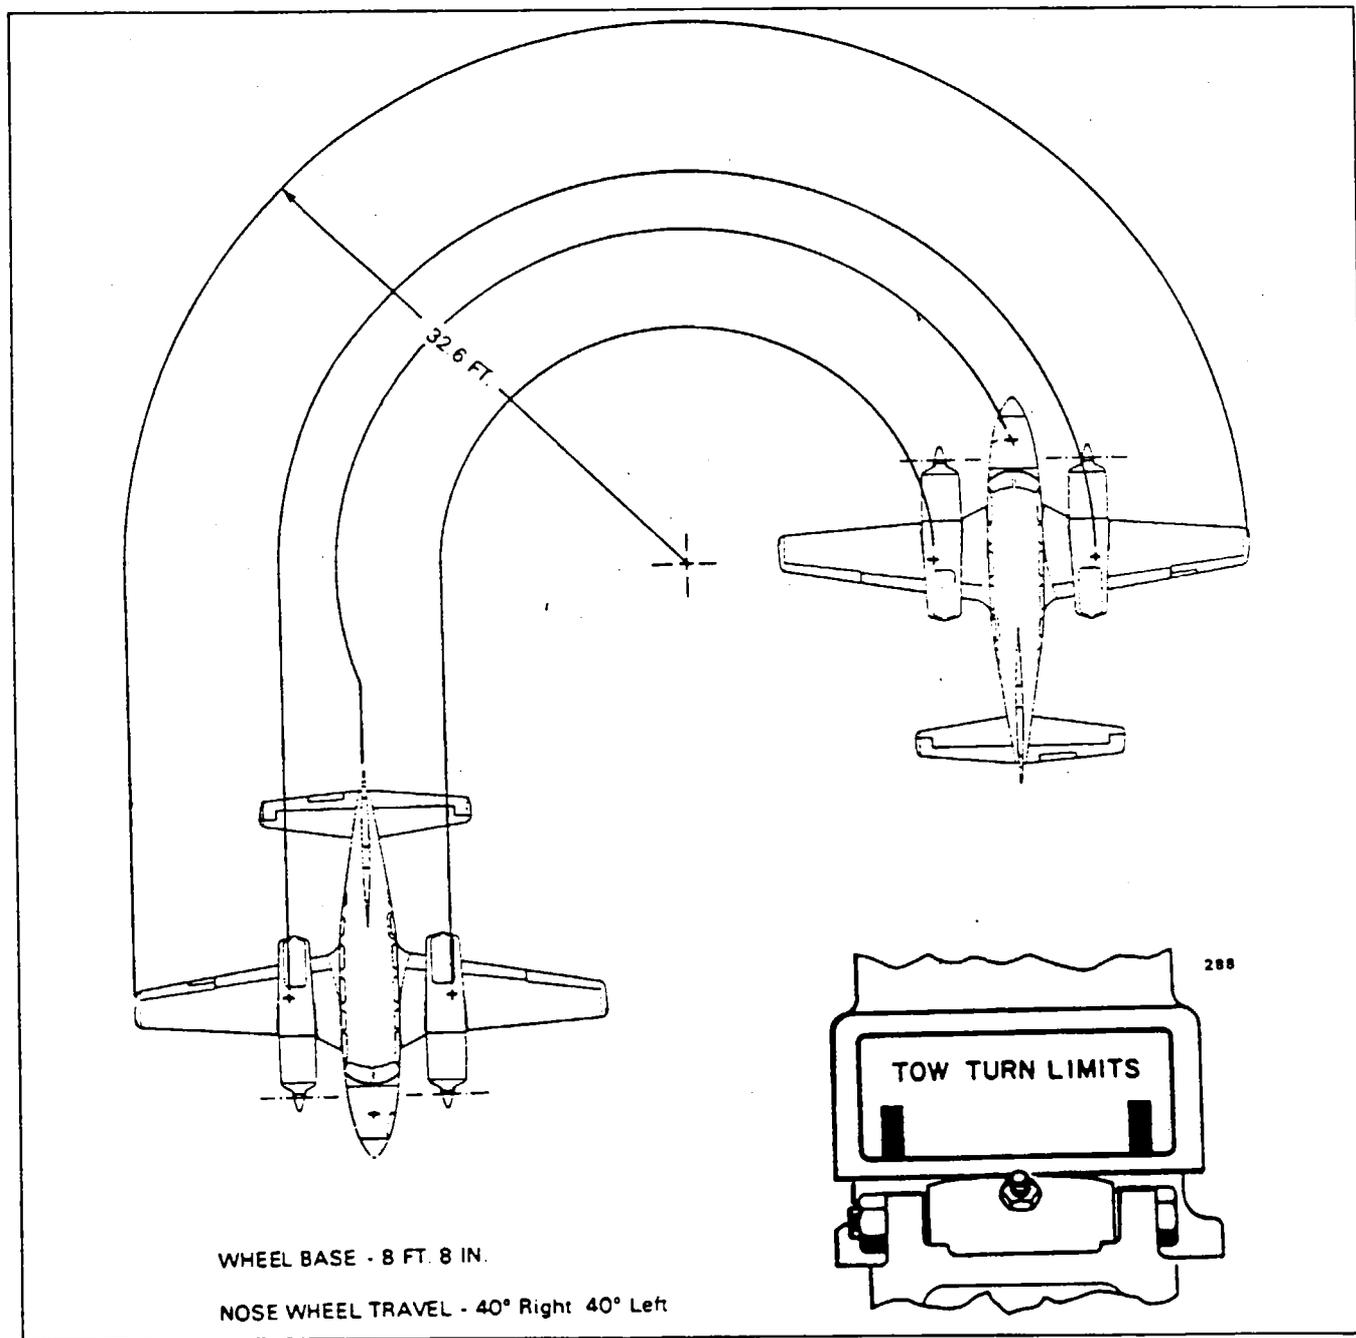

Figure 9-1. Turning Radius and Limits
Before attempting to tow or taxi the airplane, ground personnel should be checked out by a qualified pilot or other responsible person on the tow turning limits of the nose gear, engine starting and shutdown procedures and any other system functions which may be required to properly and safely move the airplane, (Refer to Figure 9-1).
*When towing, do not turn the nose gear in either direction beyond its 40 degree arc from center as this will result in damage to the nose gear and steering mechanism. A placard is installed on the nose gear strut to indicate turn limits. (Refer to Figure 9-1.) Also do not tow airplane with control locks installed.*